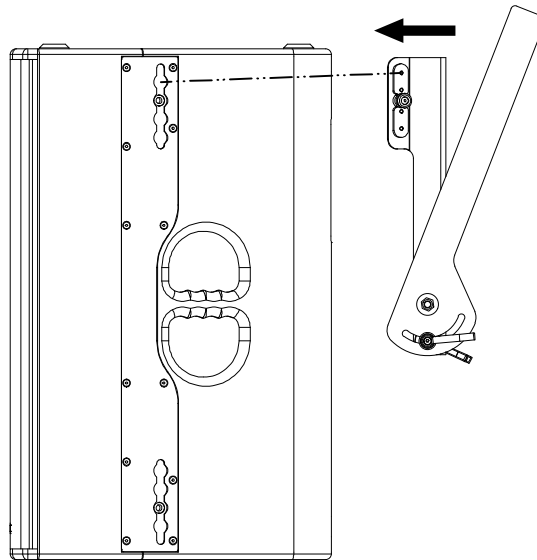

Figure 4.3.1 - Assembly SBT24 to T24N loudspeaker
2. Then guide the SBT24 swivel bracket from behind with both side arms (see figure 4.3.1) at the height of the air-cargo rigging recesses to the T24N loudspeaker.